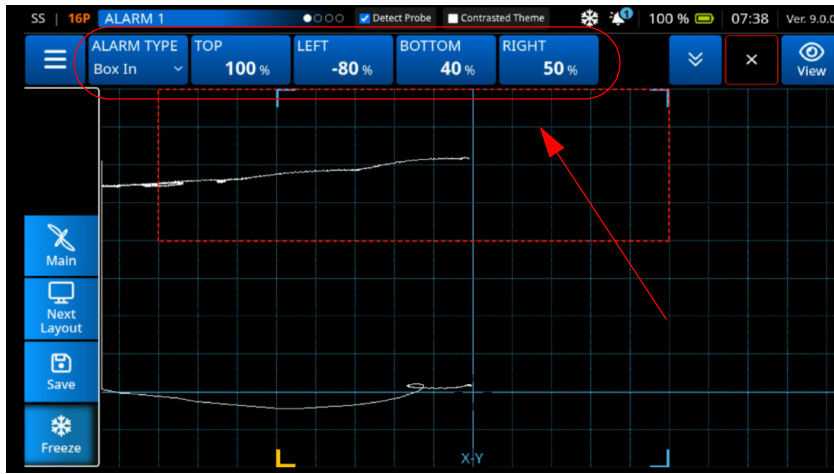

Figure 3-76 Select Box In Alarm Type
4. Select the **Box In** alarm type and define the box (See Figure 3-76 on page 99).